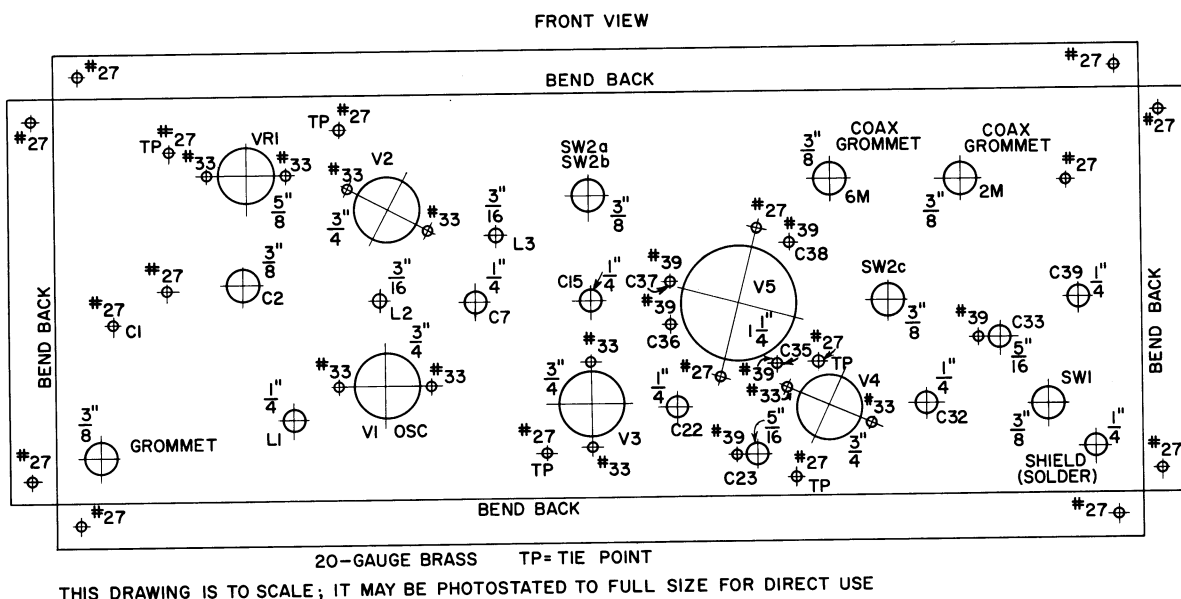

Figure 4: Construction details for main-chassis template.
**MODIFICATIONS:** In the Part I, Page 5, photograph (Winter, 1962-63, issue) showing modulator construction and rf section, the meter switch,  $S_1$ , is shown mounted on the front panel. The authors subsequently modified the transmitter to mount  $S_1$  on the rf chassis with a shaft extension to the front panel, as described in the text. The main rf chassis template (Part II, Figure 4) includes this modification. The modification was made to prevent the meter leads from picking up stray rf from the final tank coil. Also note that in the Part I, Figure 1 schematic diagram, the final amplifier, V5, is incorrectly labeled as 4606 rather than 4604 as described in the text. Also, VFO tube V1 shows the junction of  $R_1$  and  $R_2$  incorrectly connected to the screen grid rather than to the control grid (pins 8 and 9). Multiplier V3 shows pin 8 incorrectly connected to the suppressor grid rather than to its screen grid. On both V2 and V3, socket pin 8 should be tied to pin 3 with a short jumper. Resistor  $R_{17}$  is incorrectly shown as  $A_{17}$ . Switch  $S_1$  in Parts List ( $S_{1a}$  and  $S_{1b}$  in schematic diagram) is actually a two-pole, single-wafer, five-position rotary. The ceramic switches (Parts List designations  $S_{2a}$ ,  $S_{2b}$ ,  $S_{2c}$ ,  $S_{2d}$ , and  $S_{2e}$ ) are three Centralab miniature type PA-2007's—modified as described in the text.